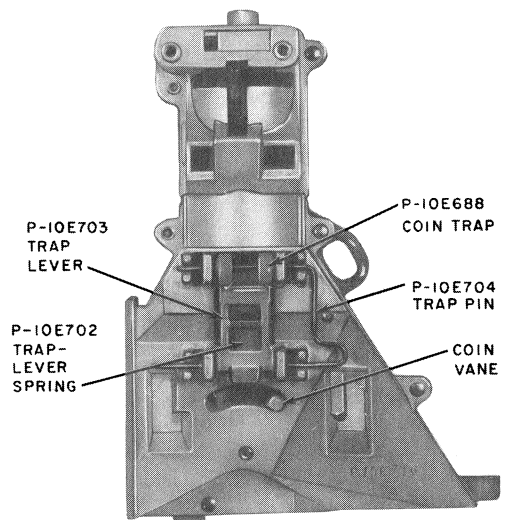

Fig. 2—Coin Trap and Trap-Lever Assembly
- (1) Move vane to right (Fig. 2).
(2) Remove trap pin by sliding vertical portion over boss on front of hopper and sliding to the right.
(3) Turn coin trap sideways and remove through opening. ♦If P-10E702 trap lever spring (Fig. 2) exists, it can be removed from trap lever and discarded or left in place if desired.♦